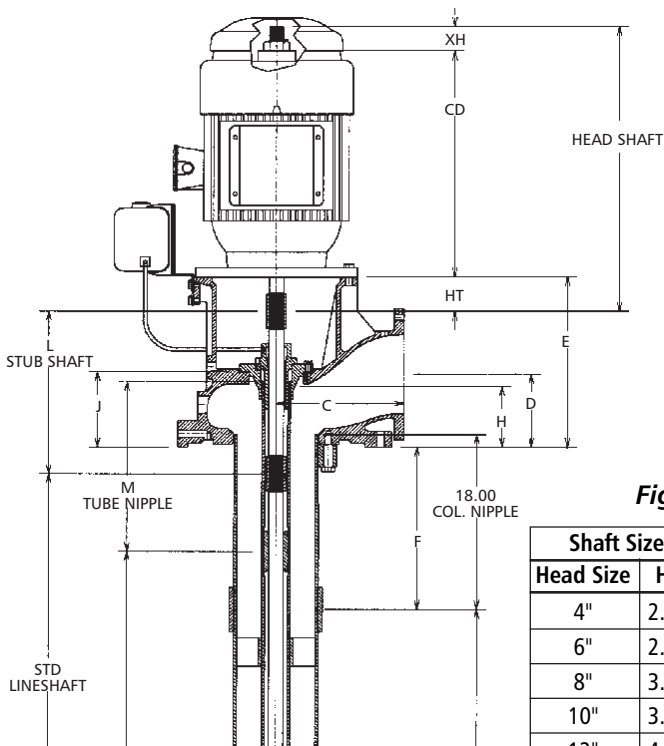
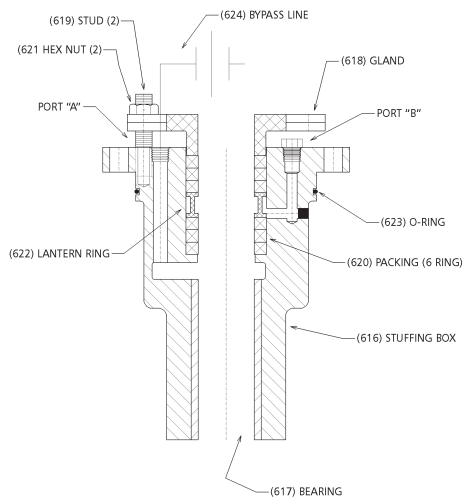
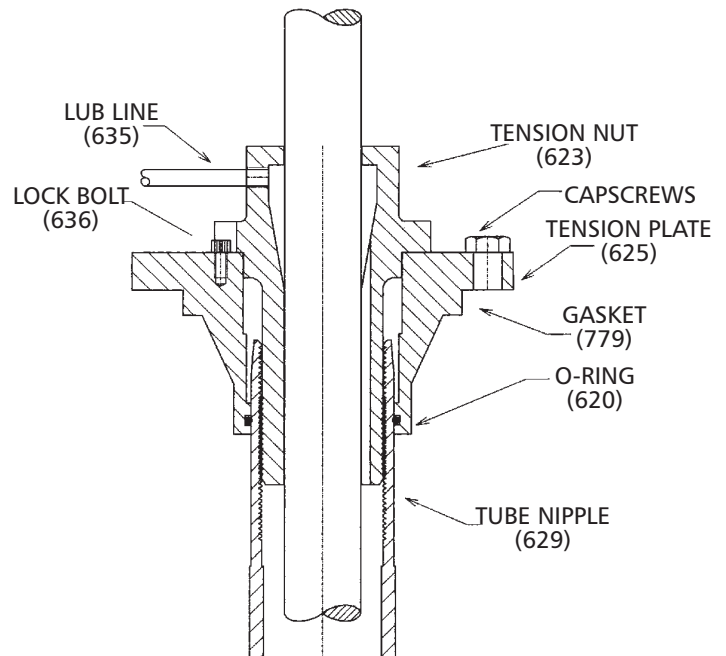

Figure 7
Figure 8
Figure 9
1. If the stuffing box (See Figure 8) or tension nut (See Figure 9) is assembled to the head, remove it and all the attached piping.
2. For threaded column, check to be sure that the flanged column (637) is securely attached to the bottom of the discharge head. Check and tighten the capscrews (or socket head screw) gradually in diametrically opposite pairs.
- If pump has a column adjusting nipple (631), for open lineshaft, screw the discharge head onto the column nipple until the end of the stub shaft is "HT" below the face the driver mounting flange of the discharge head. (See Figure 7 for detail.) For enclosed lineshaft, screw the discharge head onto the column nipple until the "F" dimension is satisfied (See Figure 7). Tighten the lock ring (639).
Assemble stuffing box as shown in Figure 8.
Assemble Tension Plate Assembly as shown in Figure 9.
For setting less than 100 ft., tighten to the nearest locking position. Check the "HT" dimension (See Figure 7), be sure it is correct.